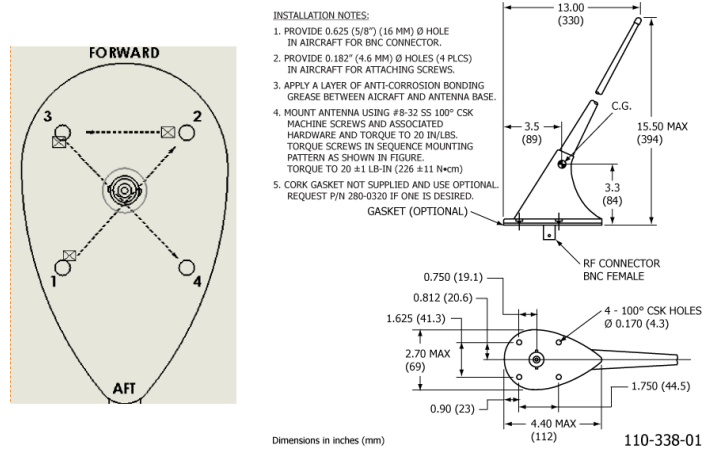
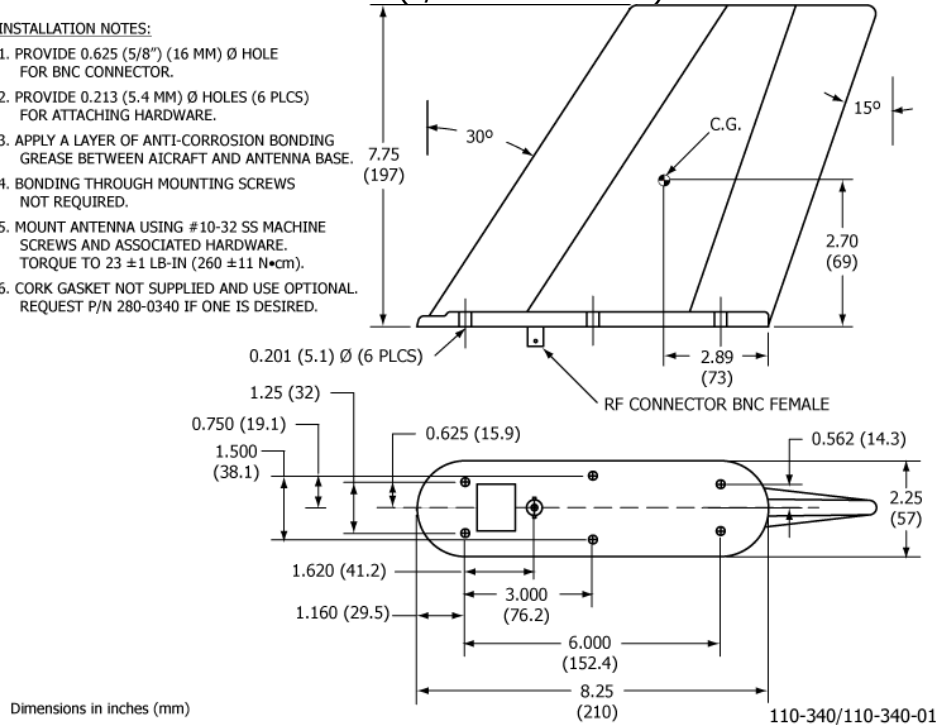
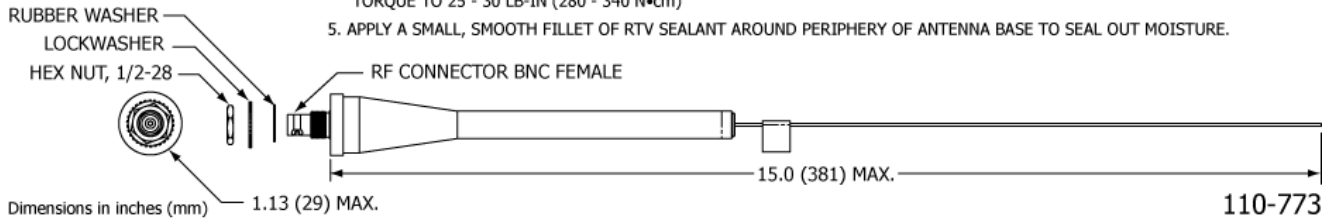

Figure 15 Rod Antenna 110-338, 110-338-01 and A3-06-2835 Outlines and Dimensions
Figure 16 Blade Antenna 110-340 Outlines and Dimensions
Figure 17 Whip Antenna 110-773 Outline and Dimensions
- 4) Drill the antenna mounting holes and coax connector hole referring to the appropriate antenna illustration for hole patterns and hole sizes. See Figure 15 below and Figure 16 below and Figure 17 on page 45.